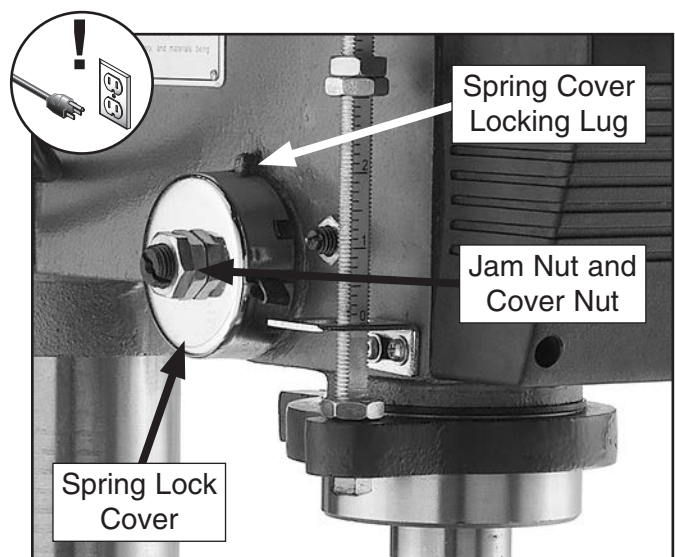

Figure 44. Spindle return spring assembly.
2. Wipe off any oil on the spring lock cover so it does not slip in your fingers when you hold the cover from spinning (see **Figure 44**).